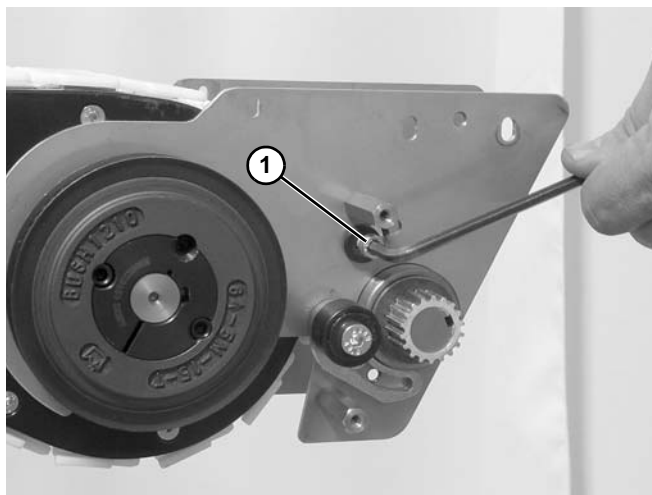

Figure 165
12. Remove socket head screw (Figure 165, item 1) on both sides of the conveyor and remove idler assembly.